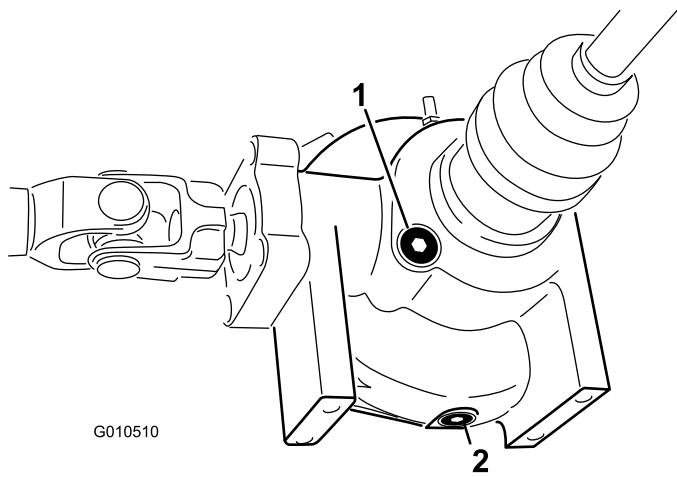

Figure 20
2. Clean the area around the fill/check plug on side of the differential (Figure 20).